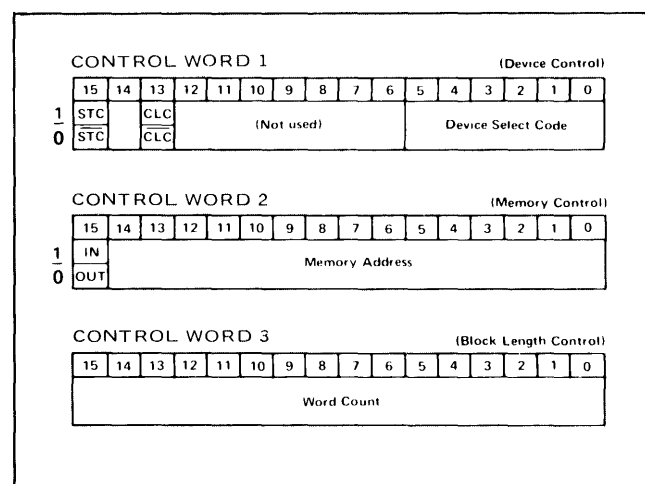

Figure 7-8. DCPC Control Word Formats
**7-15. DCPC INITIALIZATION.** The information required to initialize the DCPC (direction, memory allocation, I/O channel assignment, and block length) are given by three control words. These three words must be addressed specifically to the DCPC. Figure 7-8 illustrates the format of the three control words. Control Word 1 (CW1) identifies the I/O channel to be used and provides two options selectable by the programmer: